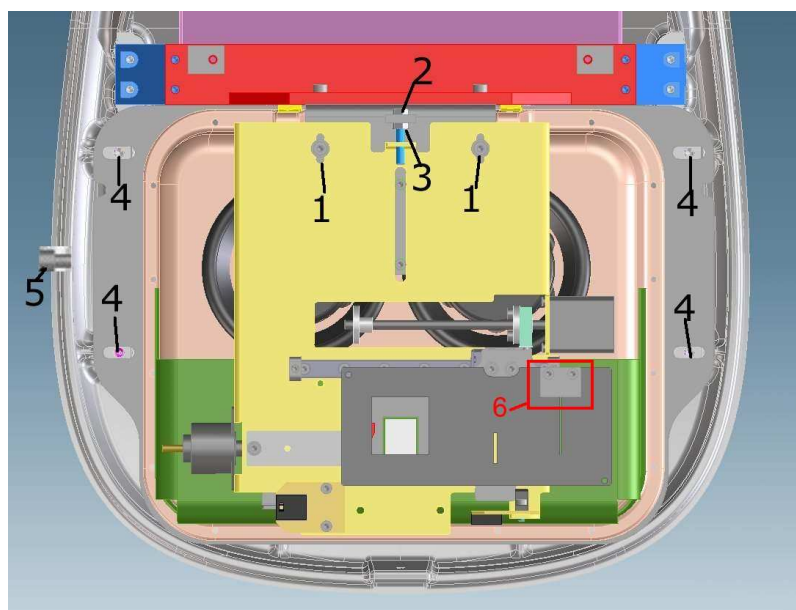

Figure 9-8
- 1.** Remove the old collimator and mount the new one using the screws 1, 2 and 3 Figure 9-8.
- In case the reference pins are aligned and centered on the window, but the X-ray beam is not centered, it is necessary to move the tubehead acting on the screws "4" (Figure 9-8).
- In case the reference pins and the X-ray beam are centered in the window but there is a vertical misalignment of the image (left right side), it is necessary to move the primary collimator acting on the screws 1, 2 and 3 (Figure 9-8).
11. Verify that the irradiated area is well centered in the sensor area. If the irradiated area is not well aligned to the sensor area, regulate the collimator position through its regulation screws 1, 2 and 3 (Figure 9-8).